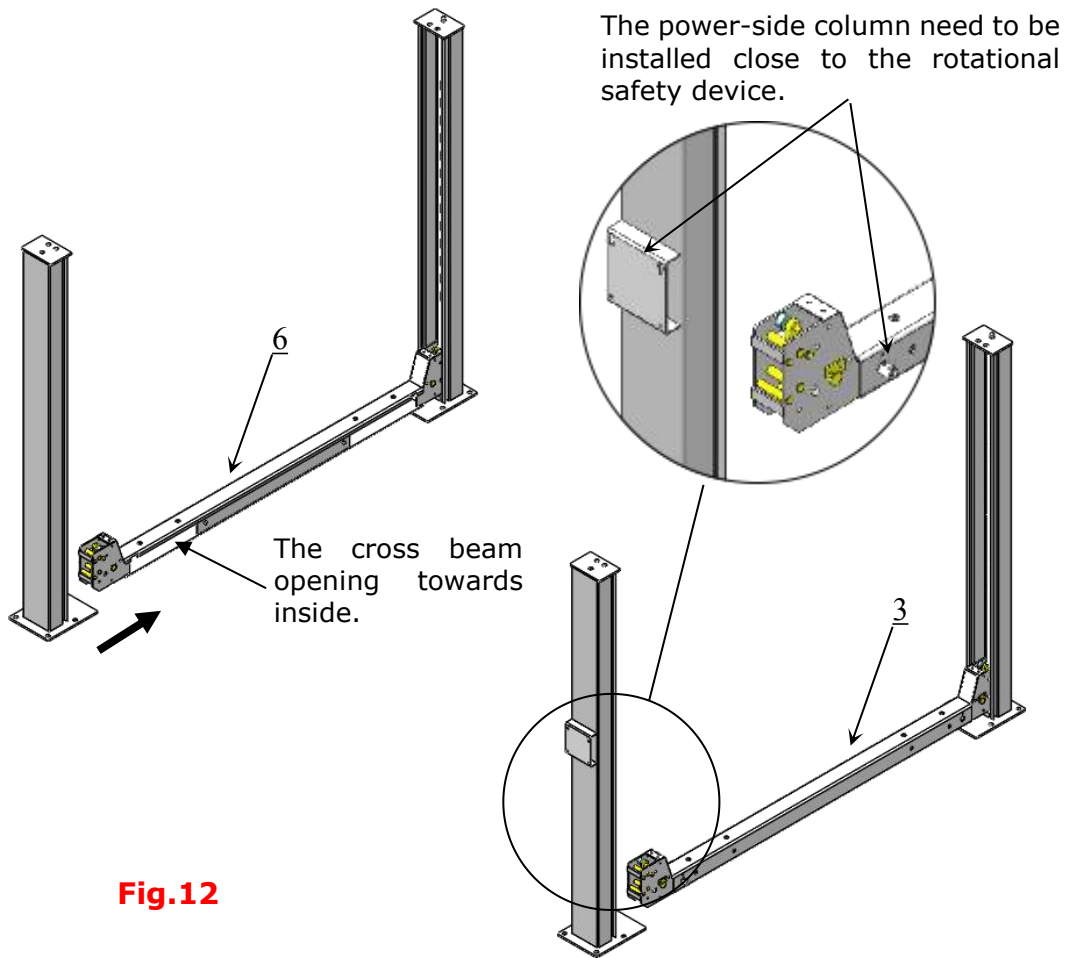
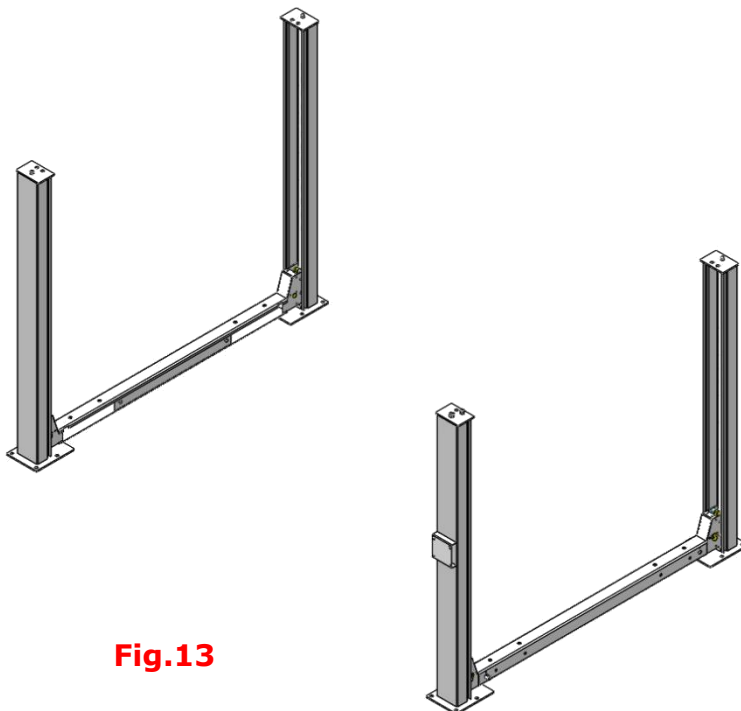

Fig.12
Fig.13
C. Install cross beams. The cross beam opening towards inside, the power-side column need to be installed close to the rotational safety device. (See Fig.12, Fig.13).